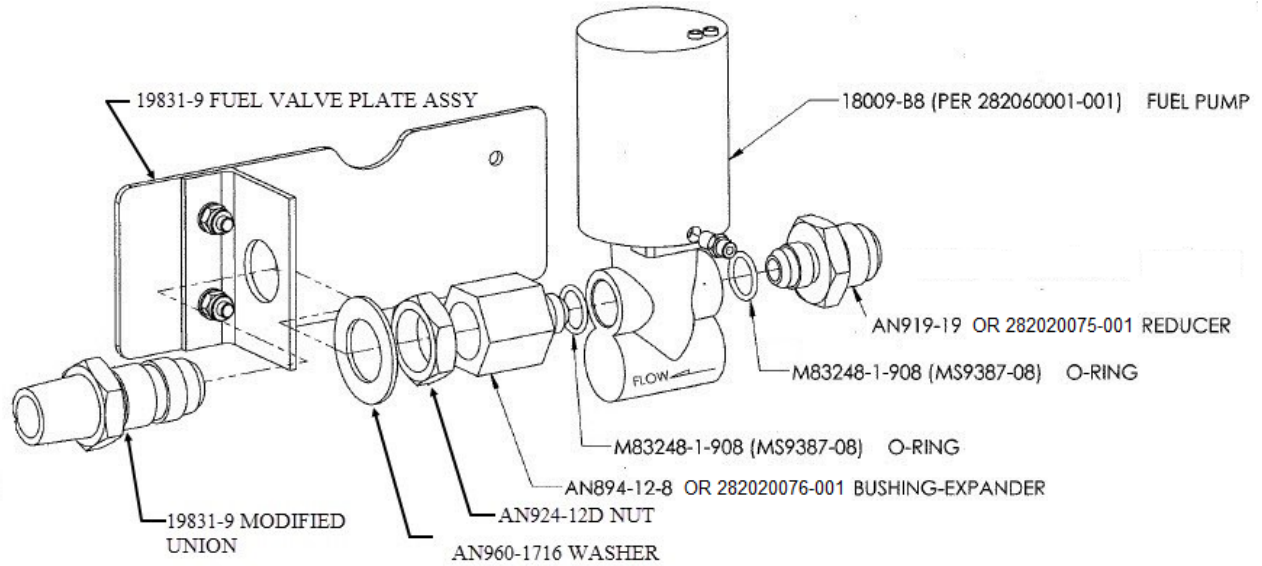

Figure 72-7
- g) Remove and discard AN894-12-8 Bushing Expander, AN919-19 Reducer, and (2) M83248-1-908 o-rings, AN924-12D Nut, AN960-1716 Washer, and 19831-9 Modified Union from pump. Cap all open connections of the pump See Figure 72-7.